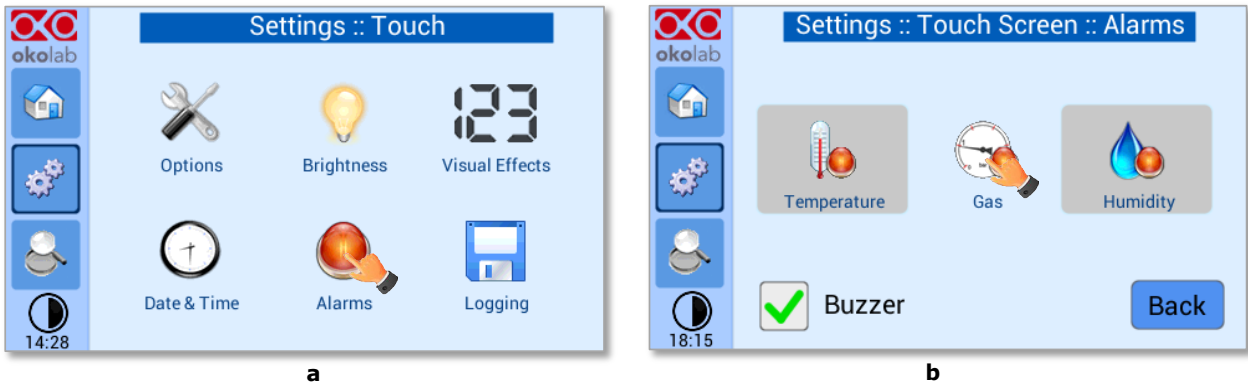

Figure 54. How to enter in Alarms page (a -b).
To set the alarms specifications, press the *Alarms* icon  (see Figure 54 a), then follow the indications below:
1. Click on the Gas icon  to set the gas deviation for a period of time then the system triggers on Alarms, as shown in the Figure 54 b.